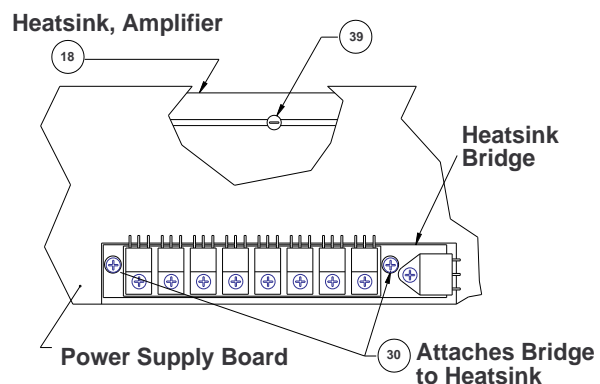

Figure 15. Heatsink Bridge
17.6 Remove two screws (**30**) and washers from the heatsink bridge with a phillips-head screwdriver. Refer to **Figure 15**.
18.3 Secure the Power Supply's heatsink bridge to the heatsink by tightening two screws (30) and washers with a phillips-head screwdriver. Refer to **Figure 15**.